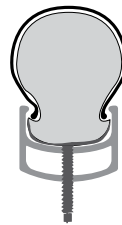

Figure 17. Make sure the inner tube is not caught under the tire beads.
7. Push the base of the valve stem up into the tire so that it is not caught between a tire bead and the rim (Figure 17).